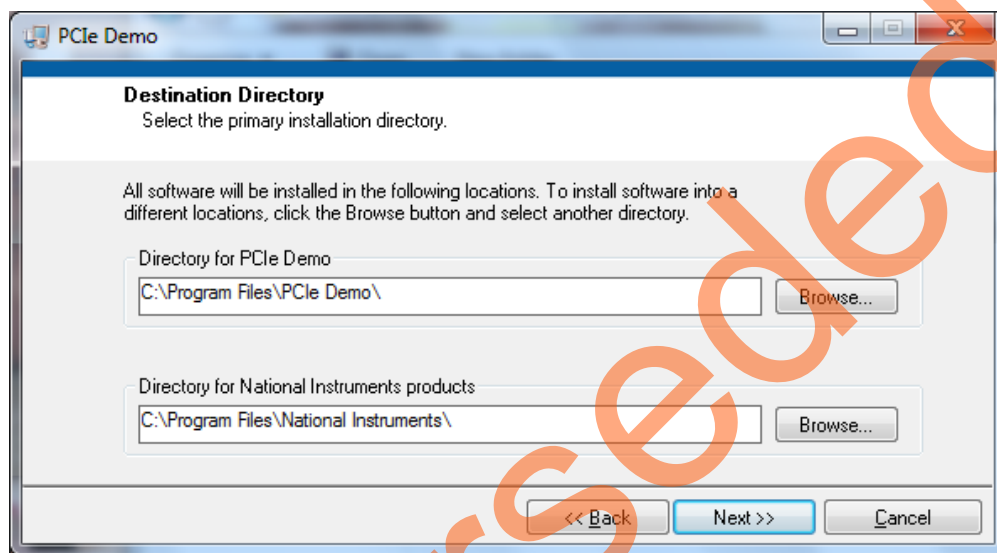

Figure 55 • GUI Installation
2. Double-click the **setup.exe** in the provided GUI installation (PCIe_Demo_GUI_Installer\setup.exe). Apply default options as shown in Figure 55.